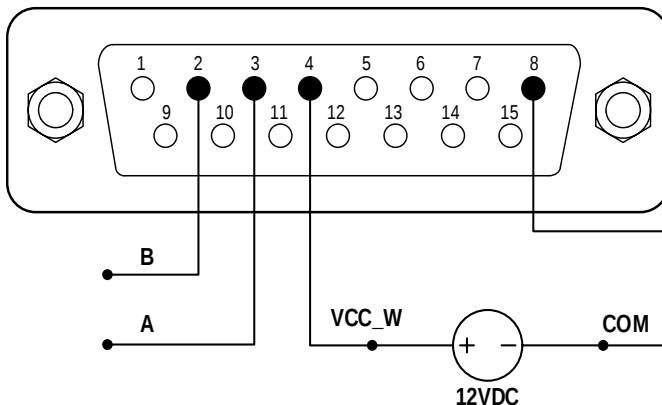

Figure 21. RS485 MODBUS Wiring
- 1) When the power is off, wire the DB15 connector as shown in Figure 21 and connect it to the DB15 port on the rear of the pump. An external DC power source is recommended to avoid electrical interference.